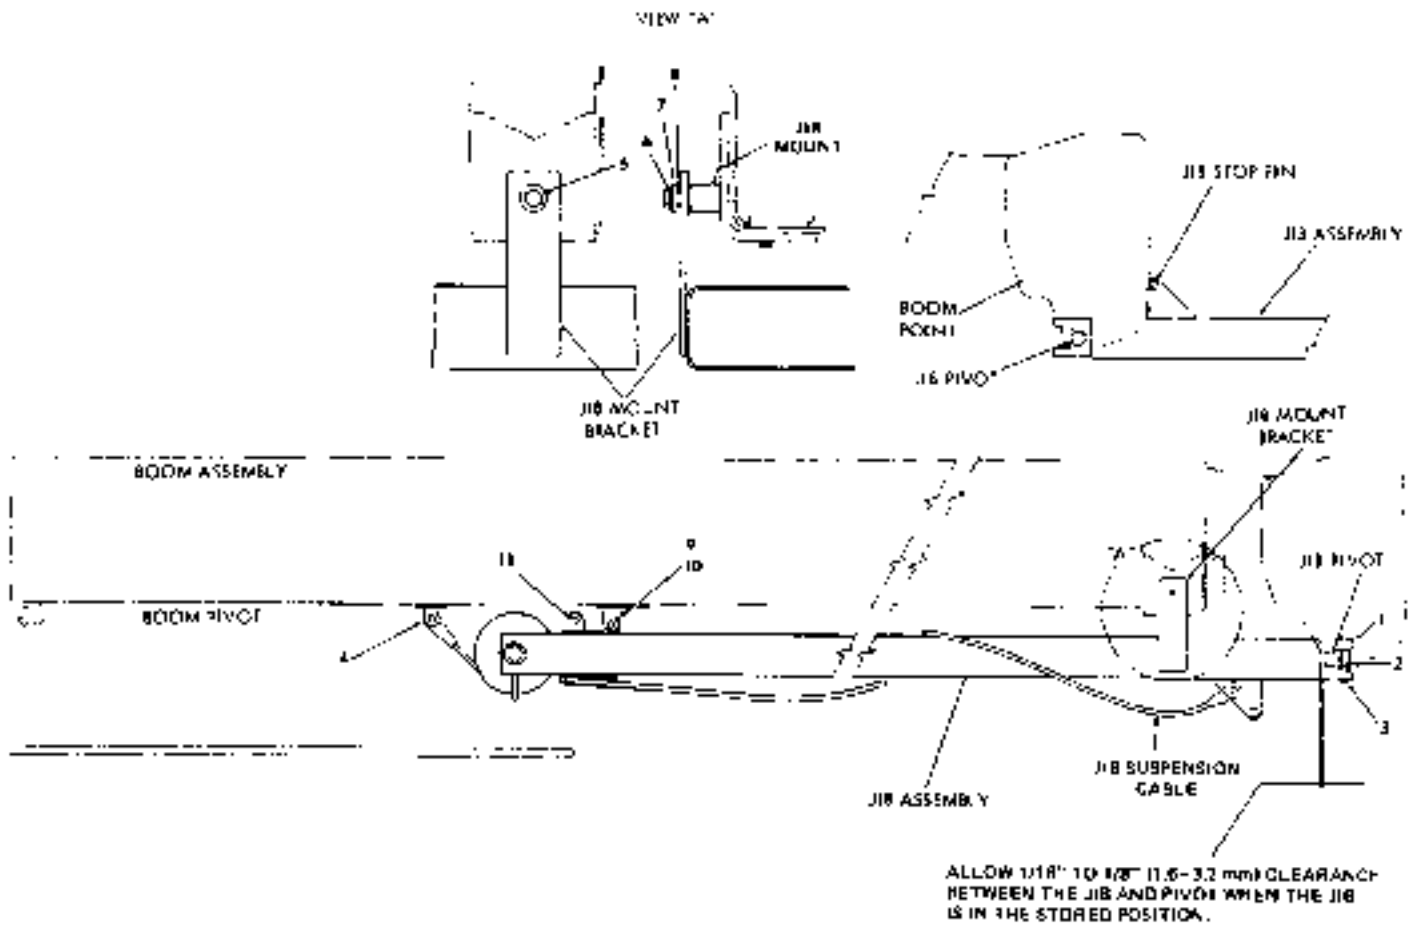

Figure 2-16. Jib Storage (911J90-E)
To place the jib into the operating position from the storage position, proceed as follows (see Figure 2-16):
To place the jib into the storage position from the operating position, proceed as follows (see Figure 2-16):
2. Remove the hook block from the main or auxiliary winch line, and attach the line to becket (11). Take up on the winch line to relieve the tension on the jib suspension cable.
3. Remove the suspension cable from the boom point and attach it to the bracket at the base of the jib as shown in Figure 2-16. Elevate the boom to an angle of approximately 45 degrees, and pay out line from the winch slowly, until the jib is suspended vertically from the boom point.
5. Remove the winch line from becket (11) and attach it to becket (4). Slowly lower the boom and take up slack in the line with the winch to fold the jib under the boom.
6. Telescope the boom back fully, and take up slack with the winch until the jib mount bracket is aligned with the jib mounts. Install spacers (8), retainers (7), lockwashers (6), and capscrews (5).
7. Install pin (10) and lock it in place with cotter pin (9).
8. Unhook the winch line from becket (4) and attach the line to the hook block.